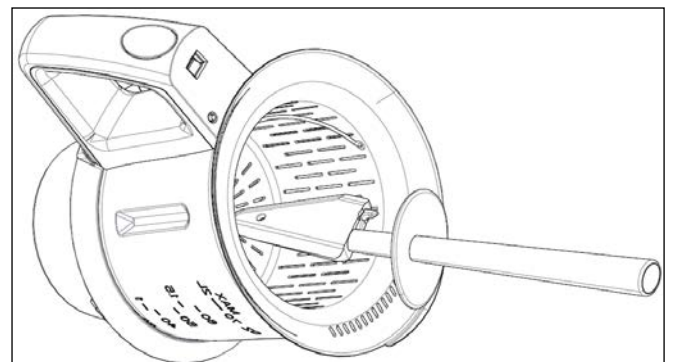

Figure 18
4. Spatula: Can scrape off the ingredients from SS jar inner wall. When filtering juice, it can also be used to fix basket, and at same time to ensure separate juice and solid ingredients. (Figure 18)